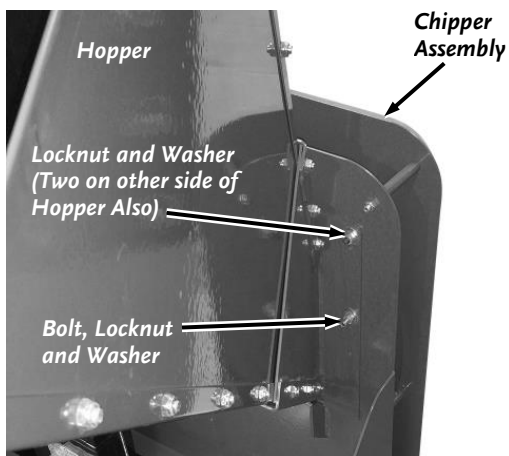

Figure 49b: Pro XL-575
- a. Remove the Locknut and Washer from the Bolt on the lower right side of the Hopper (**Figure 49b**). The Bolt can be left in place.